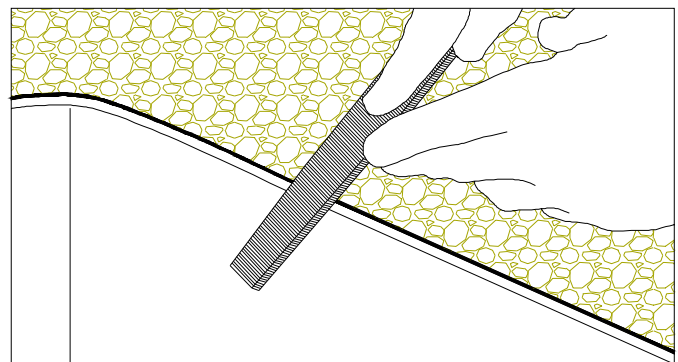

Figure 8D
- Lightly file at a 45° angle. (FIG. 8D)